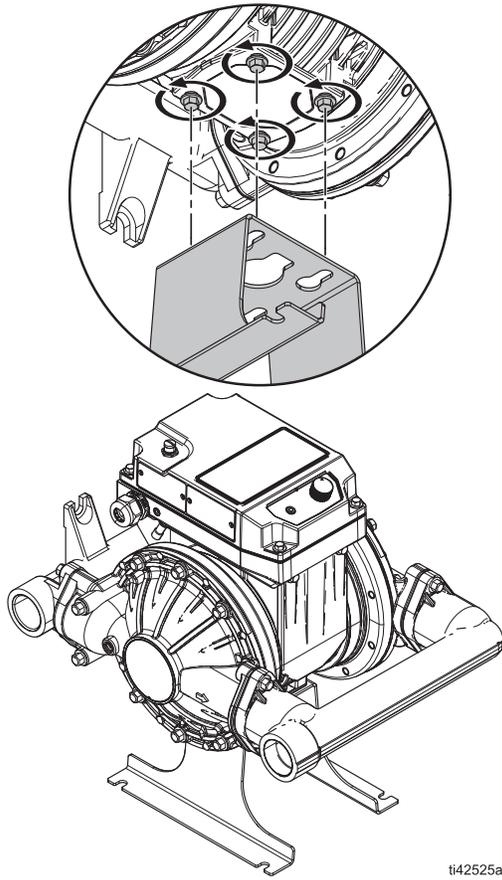

FIG. 15. Maintenance bracket stand
5. Optional: Mount the back of the pump (opposite side from the motor) to the maintenance bracket stand (purchase separately). This positions the pump facing up, enabling easy working access to the pump and motor. The stand can be mounted to a workbench through the mounting holes on the feet. See FIG. 15.